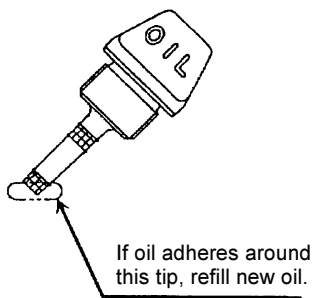
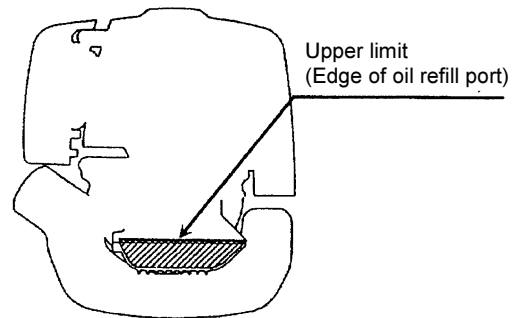

Fig.1
Fig.2
- While keeping the engine level, remove the oil gauge, and confirm that the oil is filled within the upper and lower limit marks. When the oil is in short in such a way that the oil gauge touches the oil only by its tip, in particular with the oil gauge remaining inserted in the crankcase without screwing-in (Fig. 1), refill new oil near the port (Fig. 2).
2) Fill oil up to the edge of the oil refill port. (Refer to Fig.2 of the preceding page).